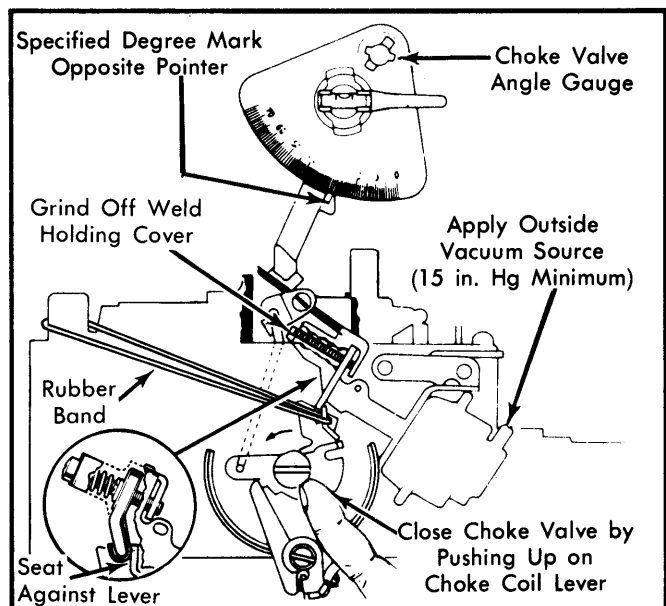

Fig. 6 Adjusting Front Vacuum Break
- 1) Remove vacuum break from carburetor, place bracket in vise and grind off tamper-resistant weld, holding adjustment screw cover. Remove cover and reinstall vacuum break. Using an outside vacuum source of at least 15 in. Hg, seat primary (front) vacuum break diaphragm. See Fig. 6. Be sure leaf bucking spring is seated against lever, if so equipped.